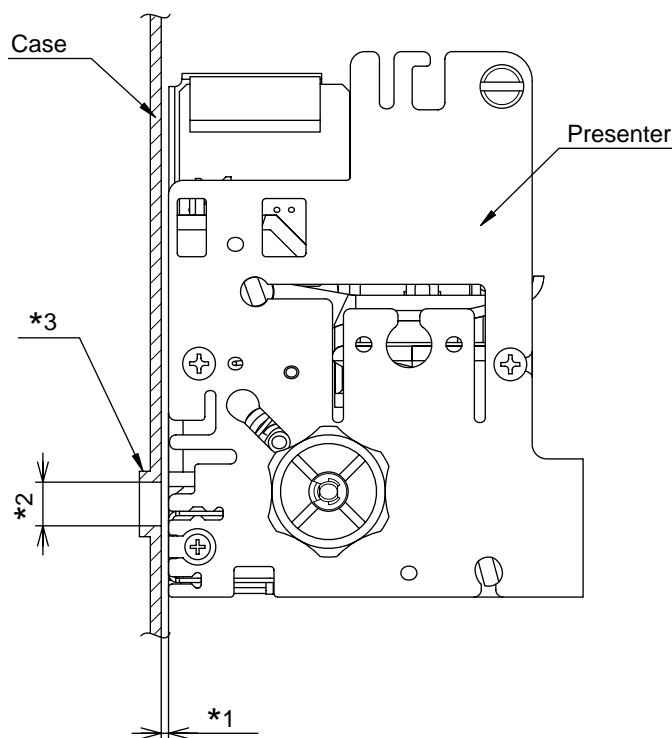

Figure 10-1
- ① Gap of *1 must be a maximum of 1 mm. (See Figure 10-1)
- ② The dimensions of *2 must be larger than the presenter discharge outlet (2 mm), but it should be small enough that it does not block the paper discharge outlet. (See Figure 10-1) If it is too large, interfering light (from the sun, etc.) will enter from outside of the apparatus from the recording paper outlet causing the paper detectors (sensors) to mis-operate, so do not make them too large.
- 1) The casing for the recording paper discharge outlet should have an outlet portion established such as *3 so that coins and clips do not fall into the casing. (See Figure 10-1)